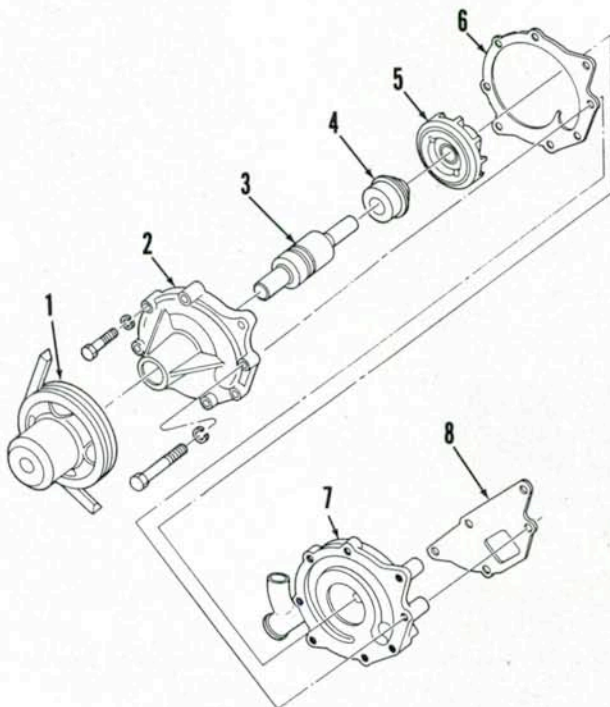
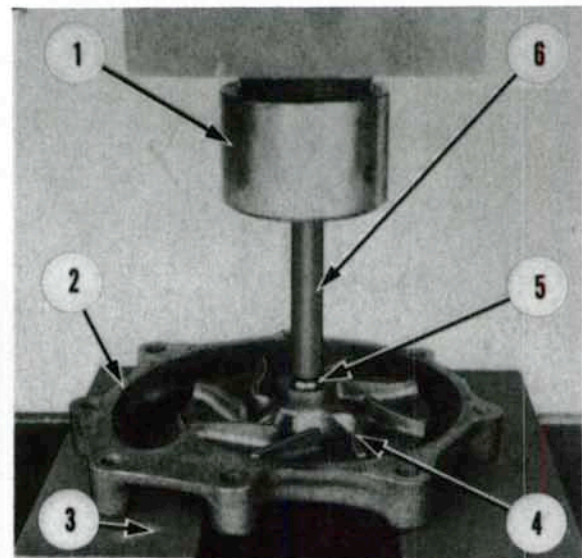

Fig. 140—Exploded view of water pump assembly used on all models.
Fig. 141—Press bearing and shaft assembly out front of pump housing.
To disassemble pump, use a suitable puller to remove pulley from pump shaft. Unbolt and remove rear cover (7—Fig. 140) from pump housing (2). Press shaft and bearing (3) out toward front of housing as shown in Fig. 141. Drive seal (4) out toward rear of housing.